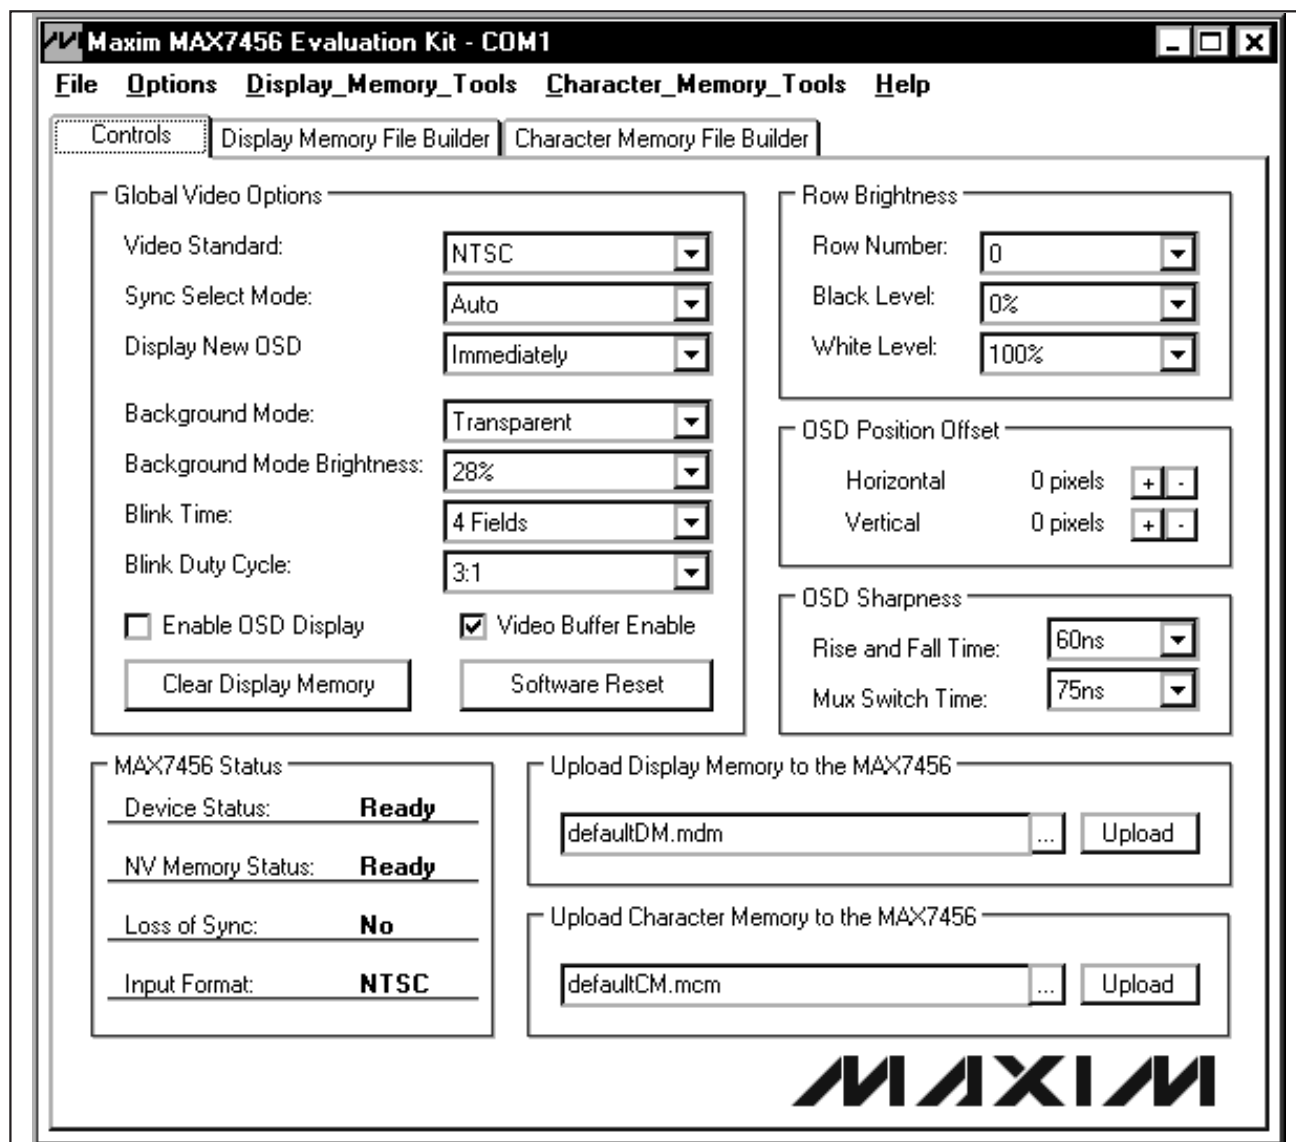

Figure 6. MAX7456 EV Kit Software—Controls Tab
- 12) The software automatically searches for the MAX7456. Check the **Enable OSD Display** checkbox in the **Global Video Options** group box (Figure 6) to make the on-screen display video visible. Type the filename SHOW\_ALL\_CHARACTERS.MDM into the **Upload Display Memory to the MAX7456** edit box, then click the **Upload** button.
The **Controls** tab shown in Figure 6 allows access to most of the registers on the MAX7456. Refer to the MAX7456 IC data sheet for a description of the controls.